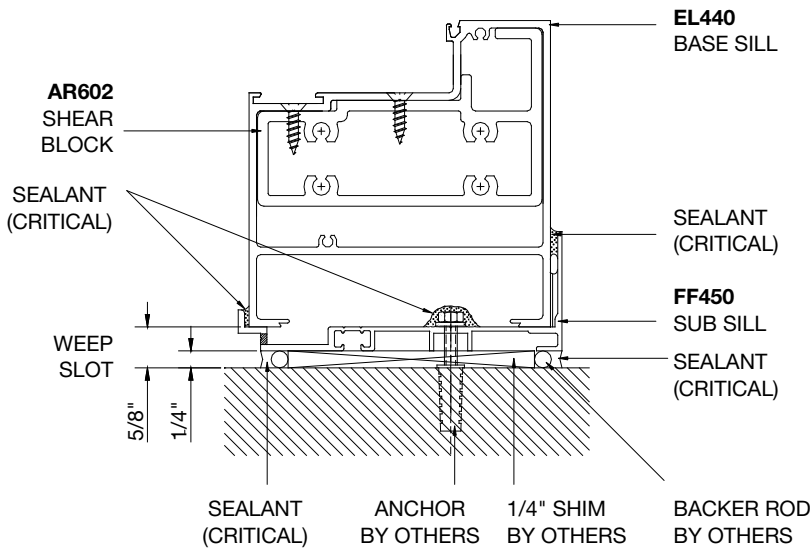
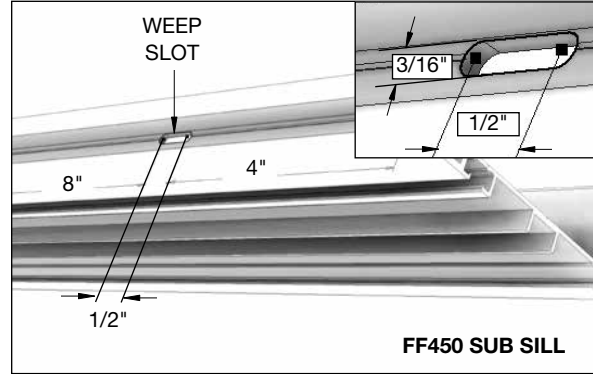

FIG. 19
FIG. 18
1. Cut the FF450 Subsill to the proper length and add Weep Slots. The slots are 1/2" wide on centers and 3/16" tall. The recommended placement is 4" from each Vertical Jamb and an 8" maximum separation (FIG. 18).
2. Attach the Subsill on top of a 1/4" shim to the floor with the specified anchors (FIG. 18). Liberally apply sealant to each end of the FF450 Subsill and around all bolt heads (FIG. 19).